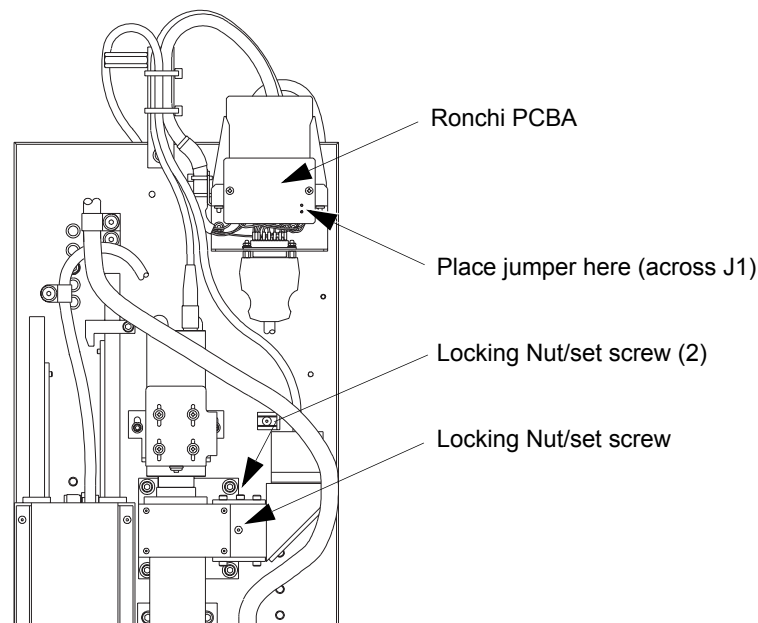

Figure 8-10 Location of the Ronchi Alignment Nut and Screw Assemblies
7. Place a jumper across J1 on the Ronchi Driver PC board (see Figure 8-10) to turn on the Ronchi grid; then select the Crosshair finder.
8. Loosen the three locking nuts -- two on top and one in front; see Figure 8-10.